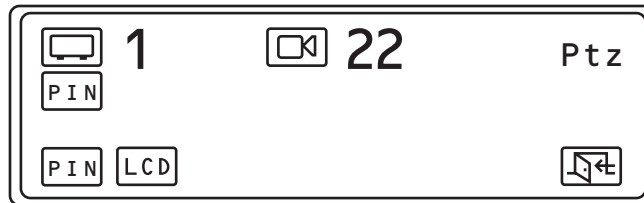

Figure 46. Define PIN Menu
1. Select **DEF** from the Main Menu. The Define PIN Menu appears on the LCD display. Camera 22 in Figure 46 is a PTZ camera.